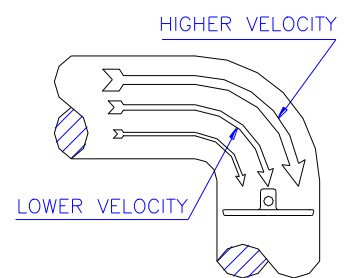

Fig. 7
- The correct installation of butterfly valves connected to an elbow would be to align the stem position in order to have equal flow on each side of the shaft, minimizing dynamic torque on the valve disc. (Fig.7)